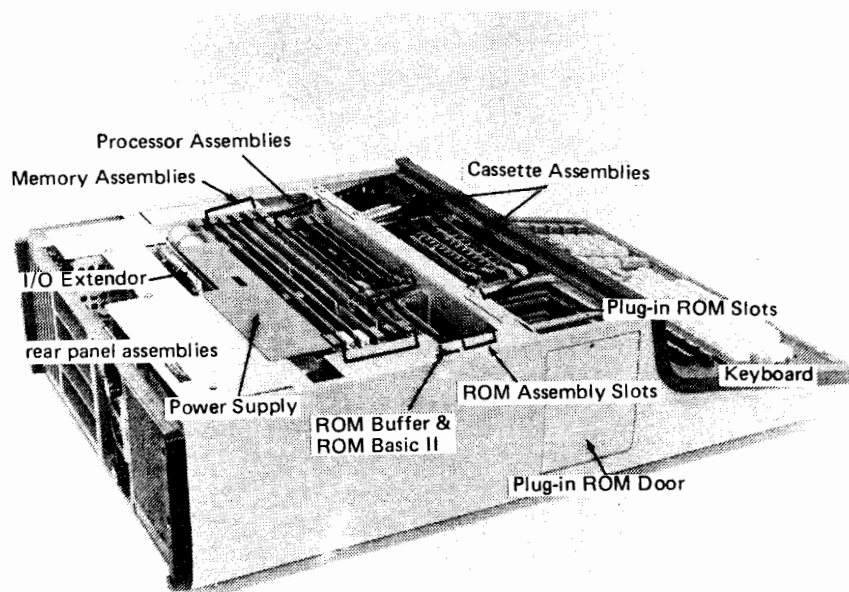

Figure 6-2. The Calculator Assemblies.
2. Remove the top cover. Then, remove the Memory, Processor, and ROM Assemblies (see figure 6-2).